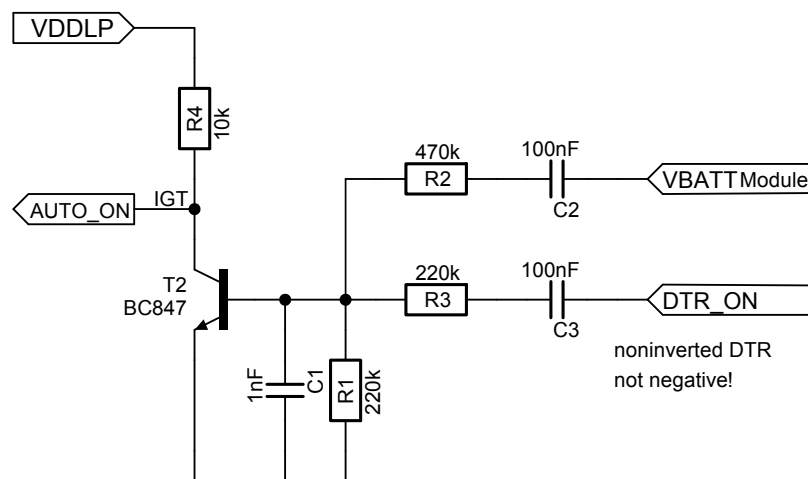
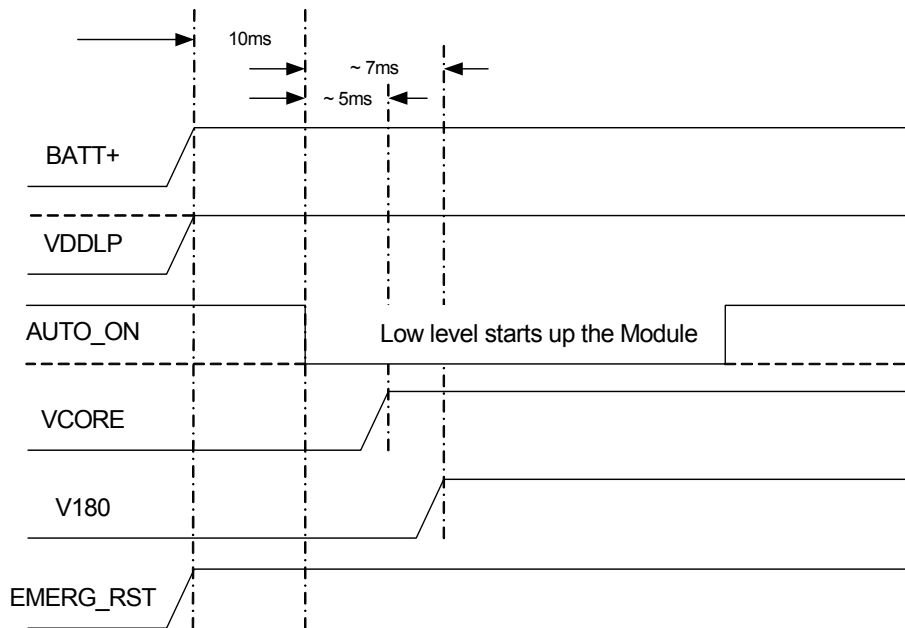

Figure 38: AUTO\_ON circuit sample for automatic module switch on
Figure 39: AUTO\_ON signal timing
- Figure 38 for an automatic module switch on. The circuit shown in Figure 39 is a recommended circuit for an automatic module switch-on in applications where no external micro-controller is present to control the switch-on otherwise. This circuit will allow a software controlled shutdown of module, e.g., by regular AT^SMSO command or a temperature shutdown, before disconnecting power.
Figure 39 shows the AUTO\_ON signal timing.